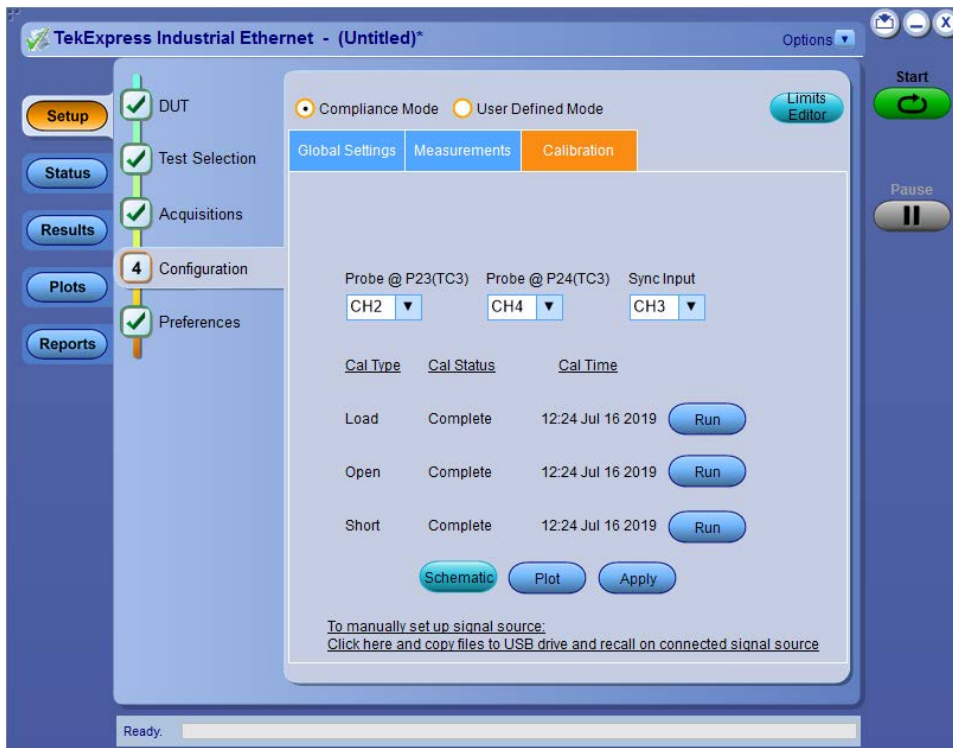

Figure 73: Return loss Calibration
10. Run all the three calibrations one after another, with appropriate connections to the calibration board (Load Calibration, Open Calibration, and Short Calibration). The application screen for calibration is show in the Figure 73 on page 106